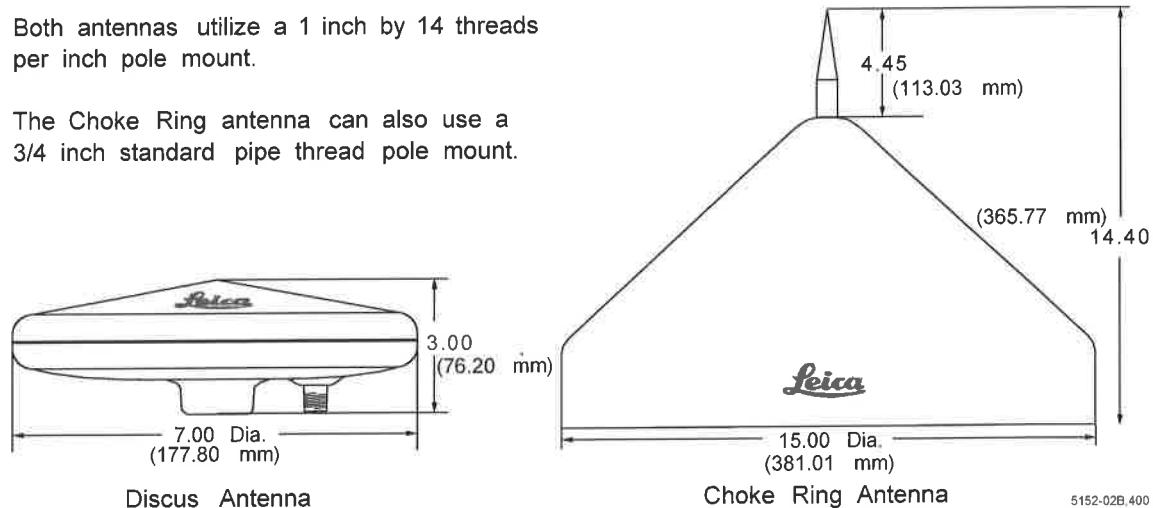

Figure 2. Navigator and Reference Antenna Mounting and Dimensions
- Attach the antenna to a rail or pole using a standard antenna mount, or other appropriate hardware, as shown in Figure 2.
2. Attach the antenna to the pole using a standard one inch by 14 thread per inch (1-14 UNC) pole mount or a 3/4 inch standard pipe thread. Dimensions of the choke ring antenna are given in Figure 2.